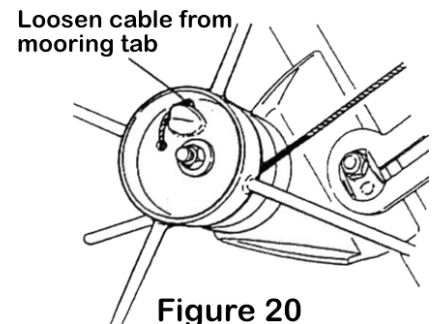

Figure 20
1. Release the cable tension until you can loosen the cable from the mooring tab in the winch. Pull the cable out through the hole in the winch drum. (Figure 20)